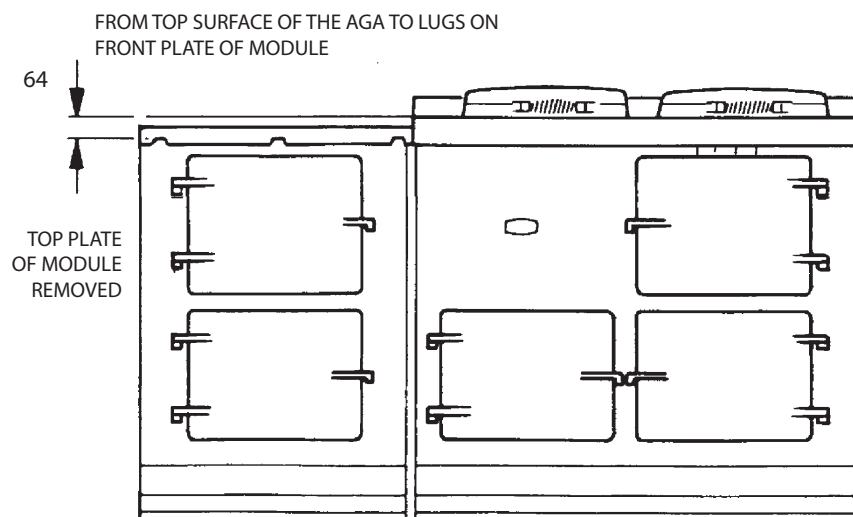

Fig. 10.2
8. Levelling of the simmering plate on the main cooker can be carried out with its top plate in position and verified across to the Module (see **Fig. 10.2**).